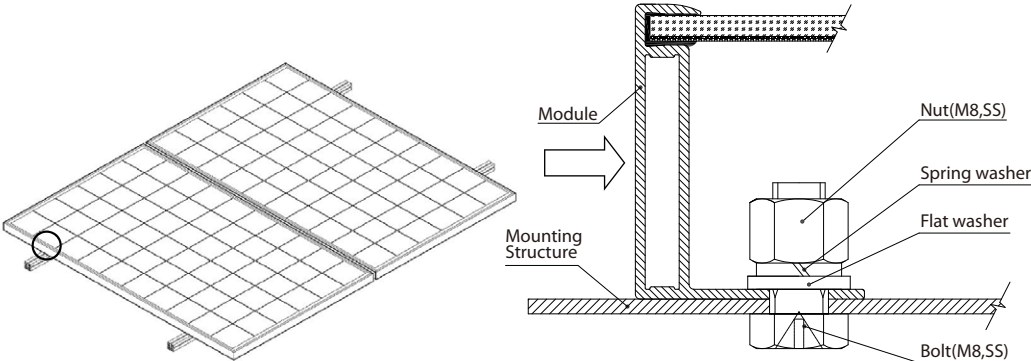

Figure 1
- Mounting hole system:** Use anticorrosive M8 bolts to install the Module on the support frame through the installation holes on its own frame, as shown in Figure 1.